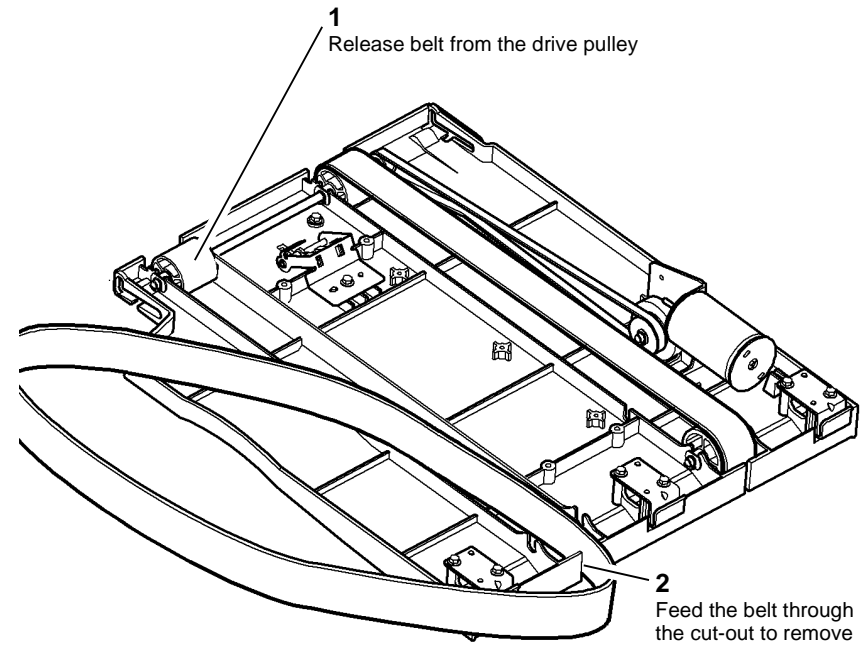

Figure 2 Belt removal
6. **Figure 2**, remove the BM conveyor belt.